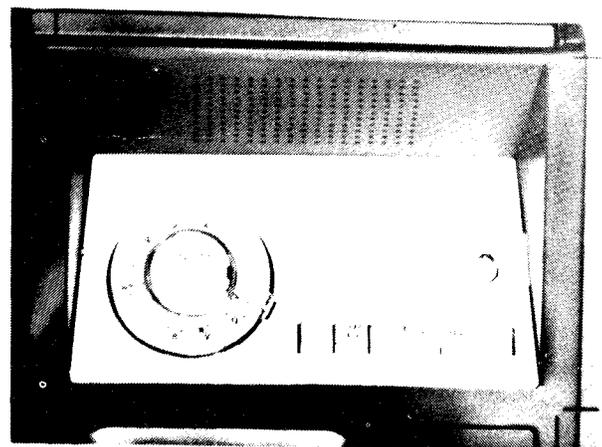

Figure 9 - Attendant Set Controls (Rotary Dialer) (DAS 804P5)
2.27 The Data Auxiliary Set DAS804P-type (Figure 9) is available with the following dialing features: